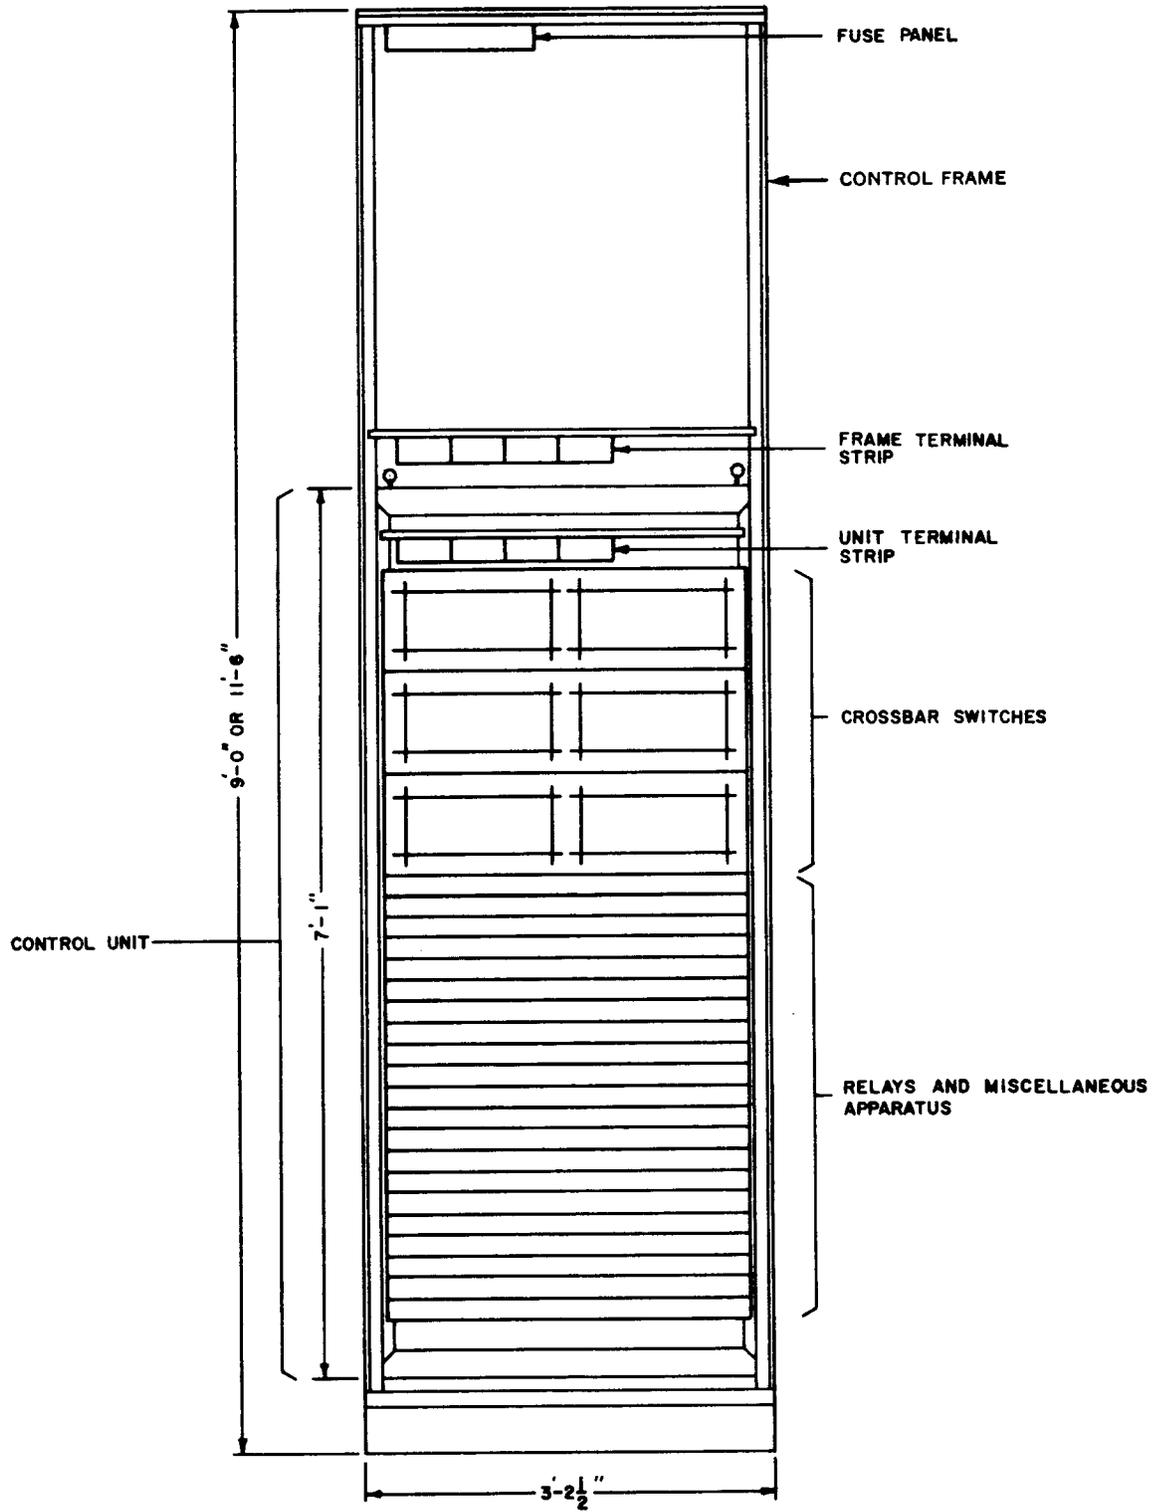
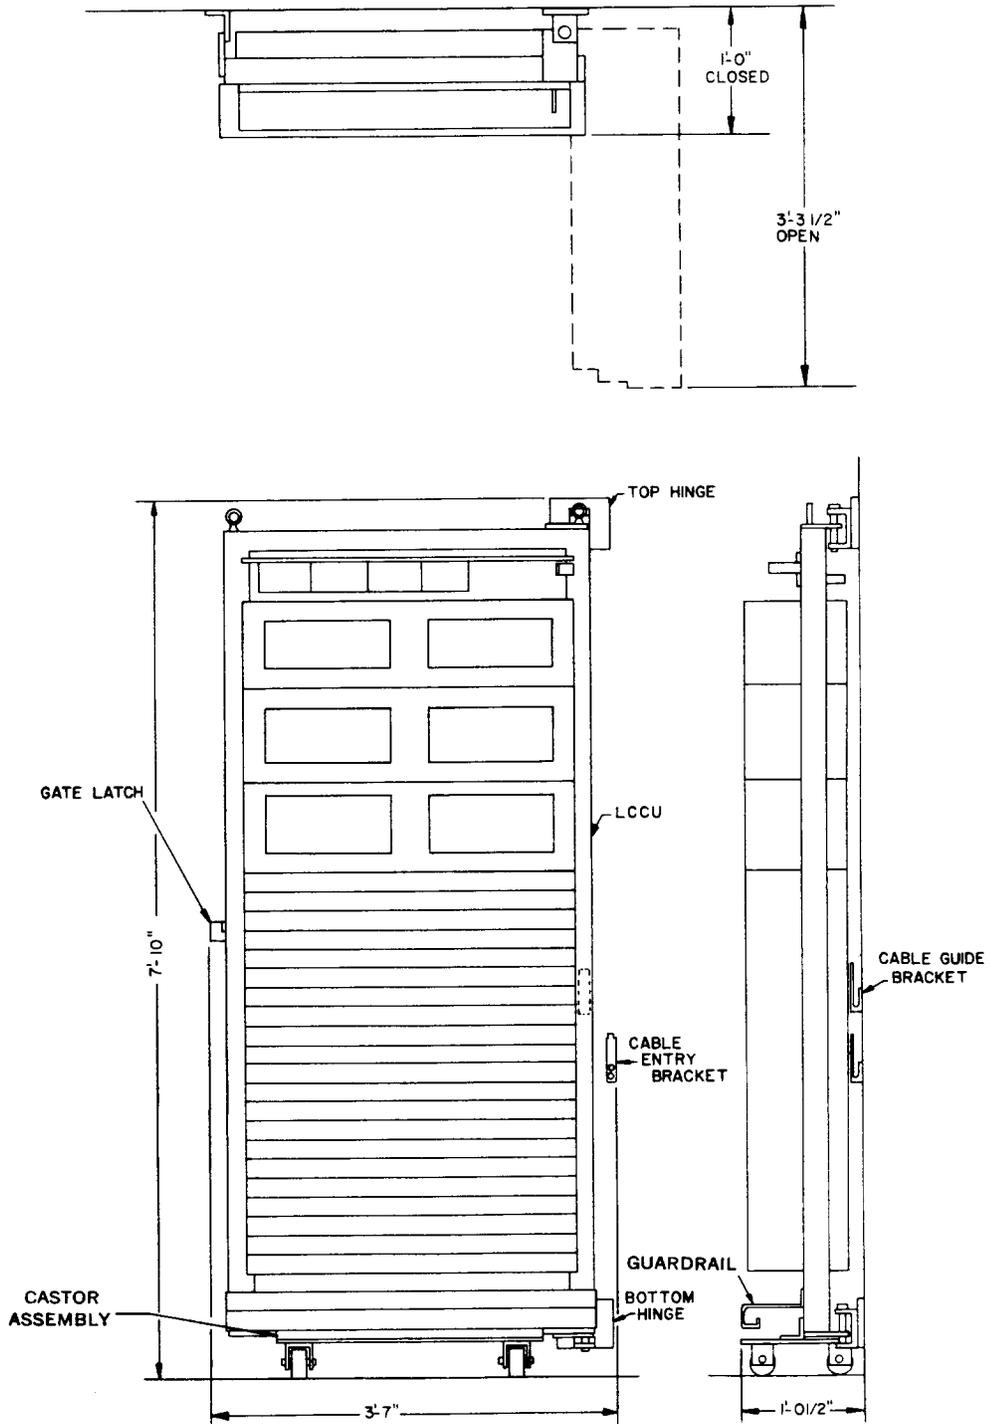

Fig. 1 - Line Concentrator No. 1A Control Frame
Fig. 2 - No. 1 Line Concentrator Wall-Mounted Control Unit
1.03 The control unit consists of crossbar switches and relay units mounted on an angle-iron framework, 7 feet 1 inch high and 3 feet 2-1/4 inches wide and weighing approximately 500 pounds. The control unit may be mounted in a control frame (Fig. 1) or an installation may be made on an internal wall of a central office (Fig. 2).
1.04 The control frame, as shown in Fig. 1, consists of a bulb-angle frame and is available in two sizes. One is 11 feet 6 inches high and has a guardrail 10 inches wide. The other is 9 feet high and 12 inches between guard-
1.06 The wall-mounted control unit, as shown in Fig. 2, requires that the wall selected for the installation be fitted with the yoke part of the floating hinges, a securing arm to hold the equipment in its closed position against the wall, cable guide and protection brackets.